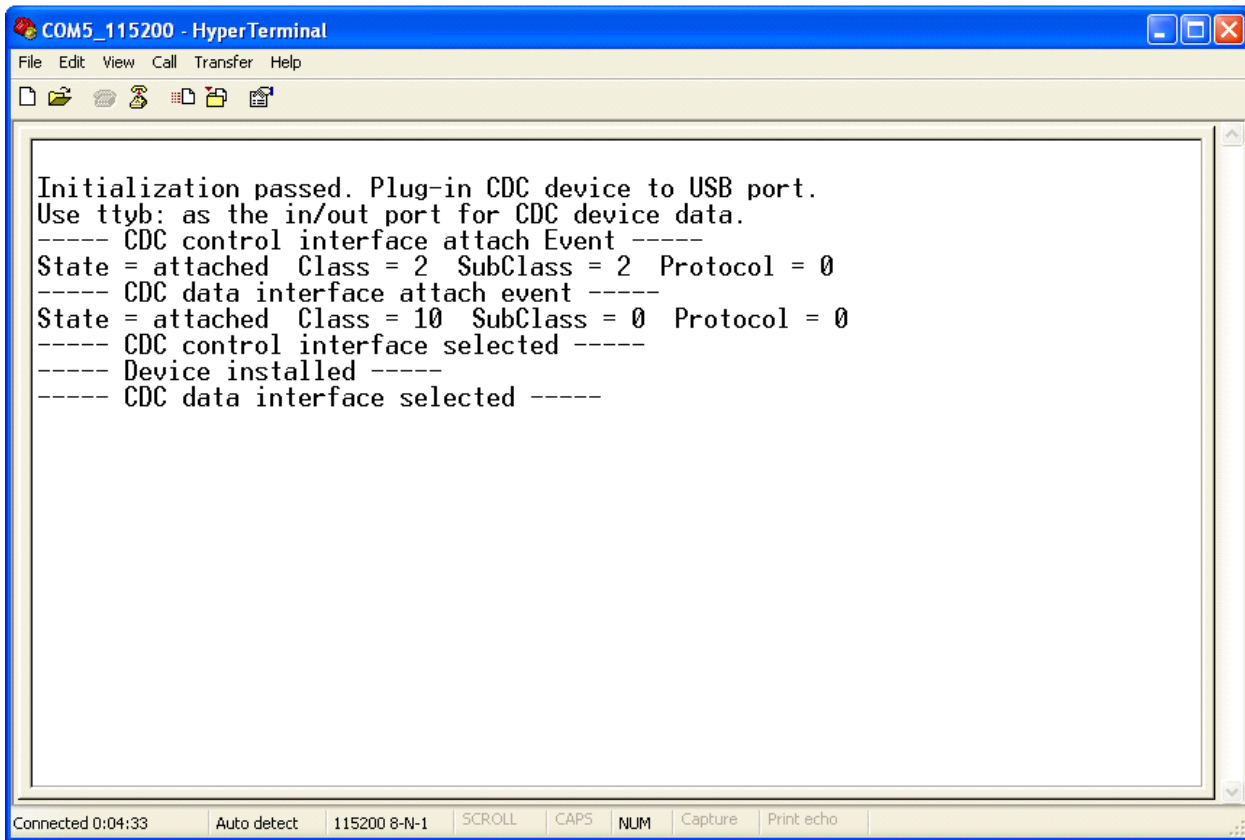

Figure D-3. Information of the device
4. Plug-in the CDC device to the CDC Host (Board). The HyperTerminal displays a message as shown in Figure D-3.